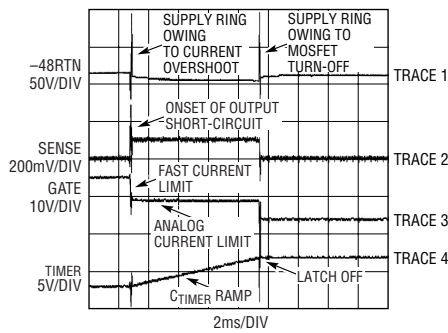

Figure 3. Output short-circuit behavior
Figure 3 shows the waveform for a short circuit failure in the power module. The -48VRTN sags a little due to the bus supply load regulation. The SENSE pin voltage briefly peaks to more than four times the circuit breaker voltage at the onset of the fault, but quickly drops to twice the circuit breaker voltage during analog current limiting. The GATE pin is ripped downwards by the fast comparator with a slight voltage undershoot. The undershoot is corrected by the charge from the compensation capacitor C_C . During this fault interval, the circuit breaker comparator (CB) sets the TIMER pin to charge up. When the circuit breaker timer trips, the GATE pin is pulled down, shutting down the MOSFET before it exceeds its safe operating area. The benefit of fast current limiting is obvious from the very short disturbance on the bus supply not causing a circuit breaker trip.